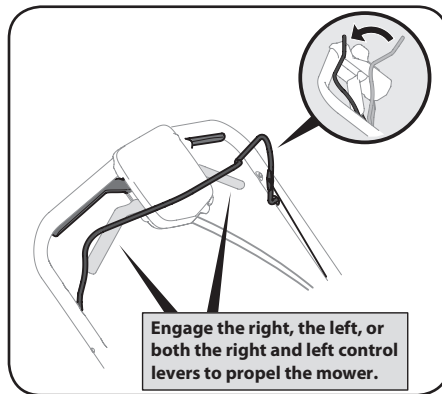

Figure 3-1
1. Once the engine is running and while continuing to hold the blade control down, squeeze either (or both) drive controls against the upper handle to propel mower. See Figure 3-1.